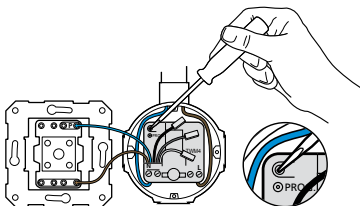

Figure 5. Activating and deactivating the Programming mode.
- Press the programming button for at least three seconds (see Figure 5). The red LED will light up and stay on after releasing the button.